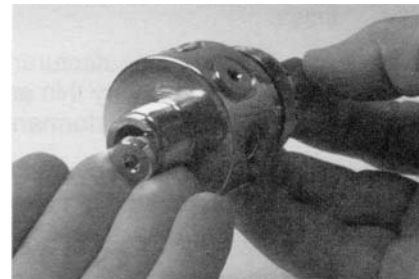

Figure 2
11. Insert the **blunt end** of the H.P. seat tool (G1094-36) into the end cap side of the regulator body. Gently push the orifice assembly out the inlet side of the regulator body. *Figure 2.*